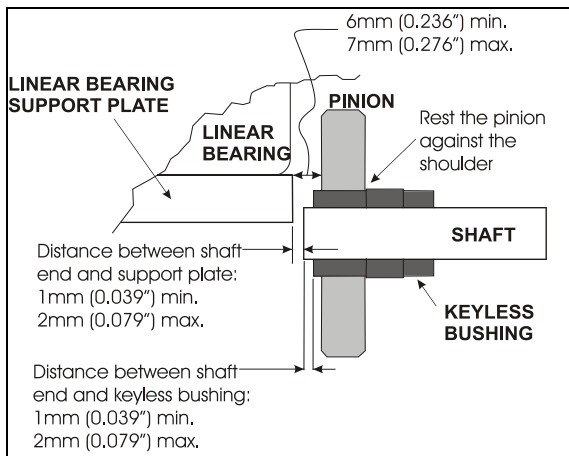

FIGURE 13: PINION AND KEYLESS BUSHING POSITIONING
3. Properly position the shaft end in relation to the linear bearing support plate (See Figure 13) and then tighten the locking collars to maintain the shaft in that position.
4. Position pinion and keyless bushing as shown on Figure 13 and tighten the keyless bushing as described in paragraph 6.4.